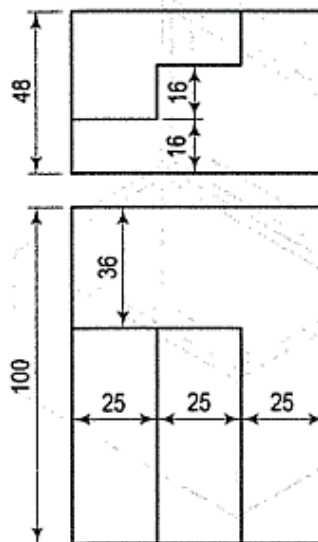

Figure 3
12. The orthographic projections of an object in first angle projection are shown in **Figure 3**. Draw the isometric view of the object and insert **six** major dimensions. (20 marks)